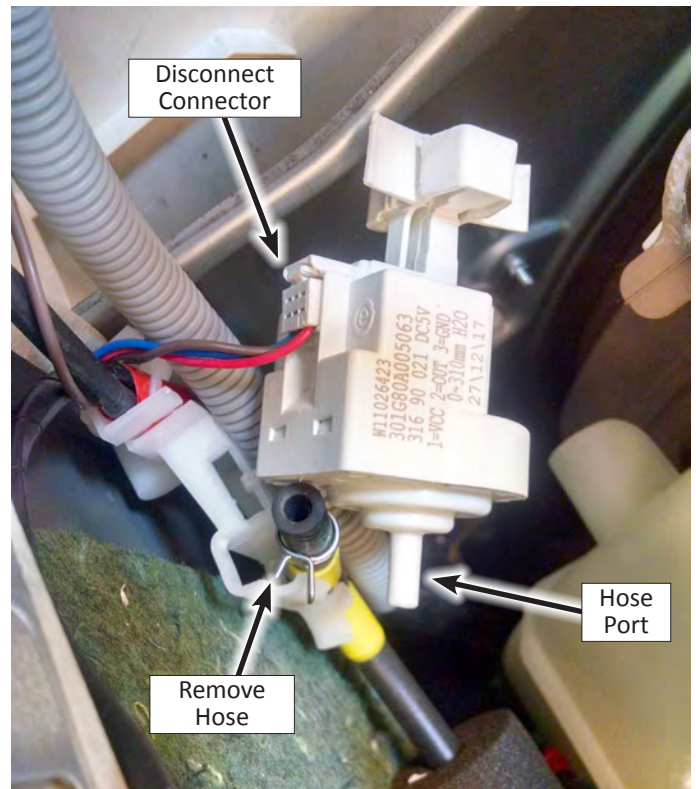

Figure 2
7. Remove the hose from the pressure switch (see Figure 2).
8. Disconnect the pressure switch harness (see Figure 2.) Press the clip away from the harness and slide out connector.